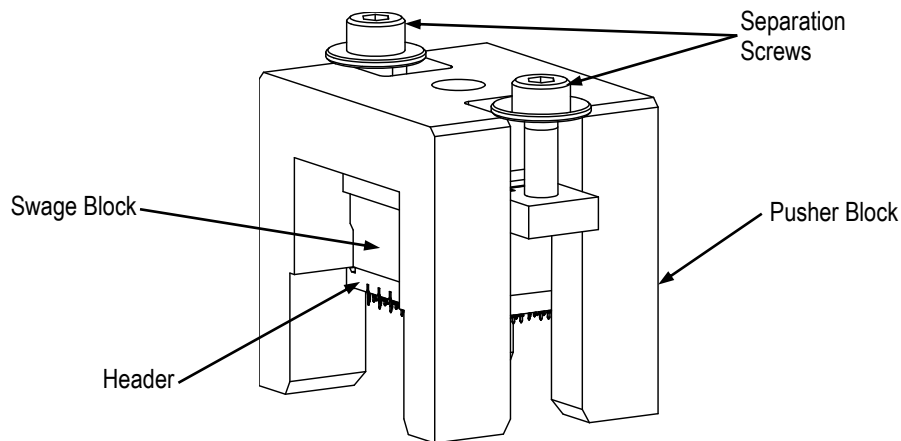

Figure 6
3. Make sure the washers are on the separation screws and thread the screws into the swage block as shown in Figure 6.